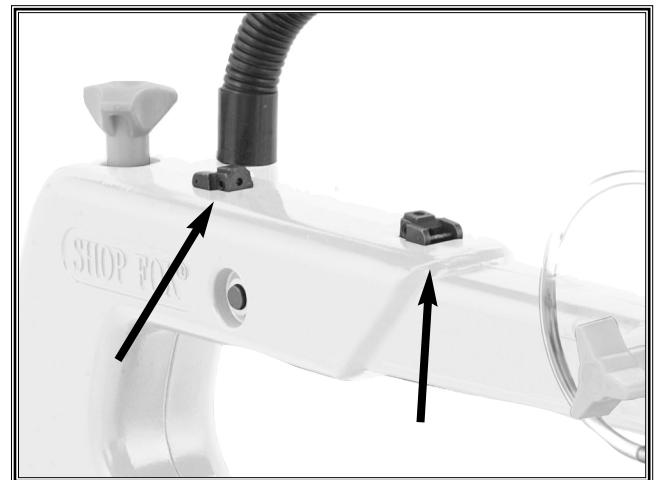

Figure 6. Blade adapters in the gauge on top of the scroll saw.
4. Position the blade adapters in the gauge on top of the scroll saw (**Figure 6**) to correctly set the blade length.